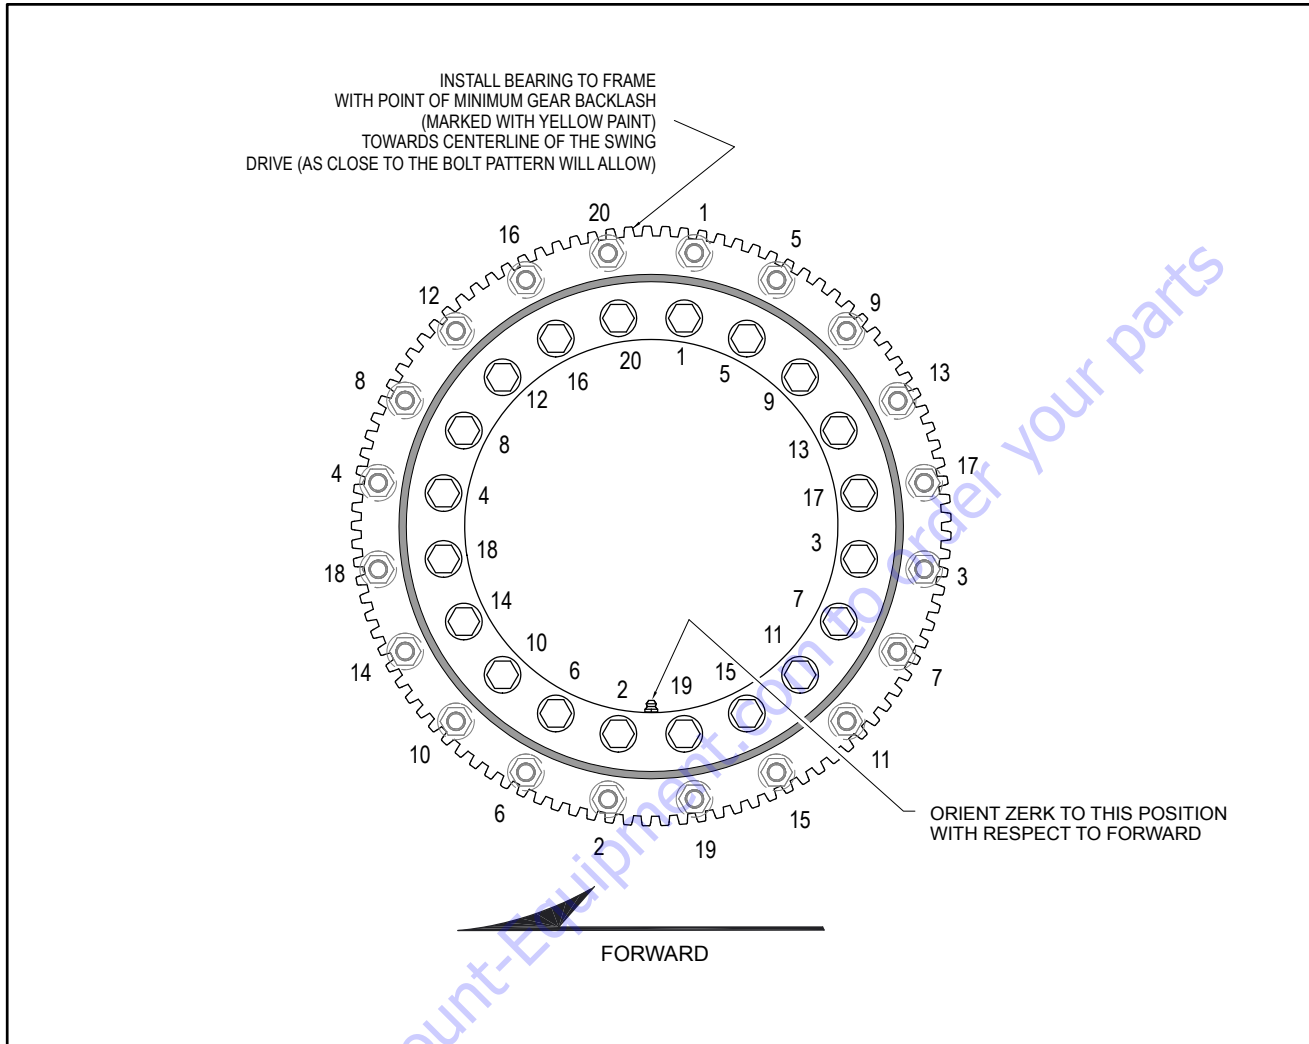

Figure 3-63. Swing Bearing Torque Sequence
3. Refer to the Torque Sequence diagram as shown in Figure 3-63., Swing Bearing Torque Sequence. Clean any residue off the new bearing bolts, then apply a light coating of JLG Threadlocker P/N 0100019 and install the bolts and washers through the frame and outer race of the bearing. Tighten the bolts to an initial torque of 190 ft. lbs. (258 Nm) w/JLG Threadlocker P/N 0100019.
8. Following the Torque Sequence diagram shown in Figure 3-63., Swing Bearing Torque Sequence, tighten the bolts to a torque of 190 ft. lbs. (258 Nm).